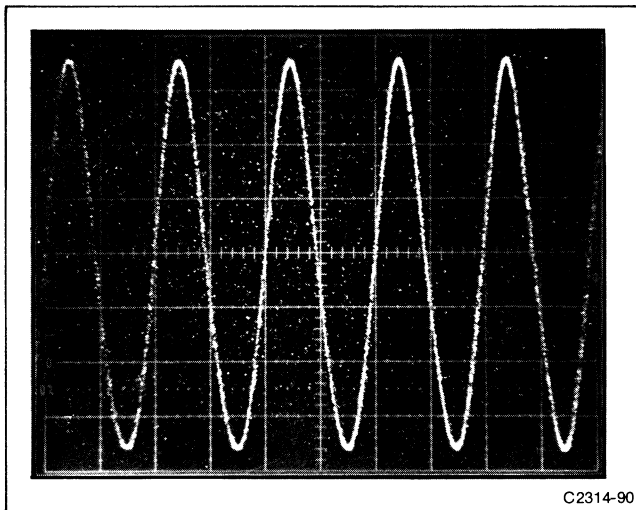

Figure 5-3. Typical display of Photographic Writing Rate test.
- n. **CHECK**—that the photograph shows the 1 GHz sine-wave clearly (Fig. 5-3 is a typical waveform).